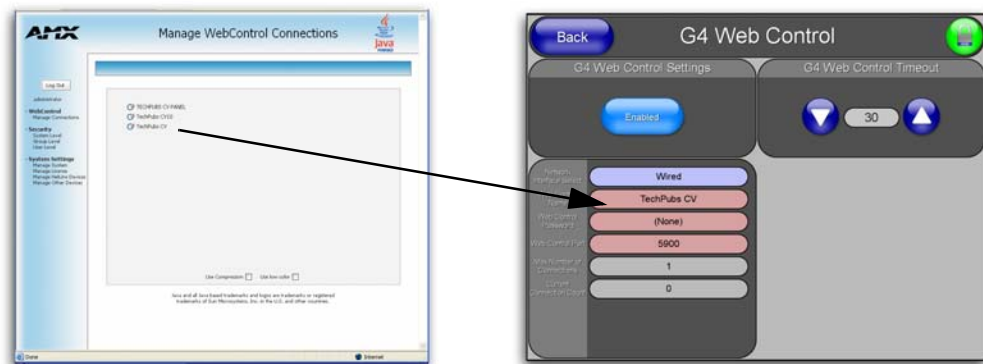

FIG. 68 Sample relationship between G4 Web Control and Manage WebControl Connections window
9. From the Web Name keyboard, enter a unique alpha-numeric string to identify this panel. This information is used by the NetLinx Security Web Server to display on-screen links to the panel. *The on-screen links use the IP Address of the panel and not the name for communication (FIG. 68).*